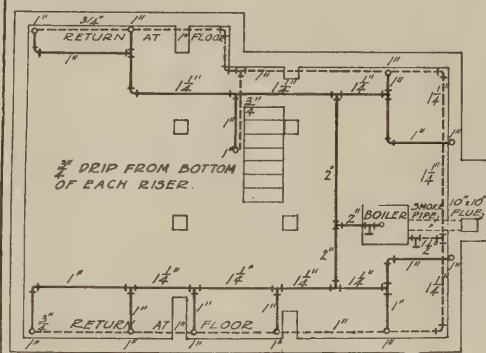

FIG. 4. BASEMENT PLAN
*Piping Layout.*—Referring to Fig. 4, it will be seen that the boiler, in this case, is placed at one end of the basement so as to utilize the flue which the architect has provided. This should be equivalent to a 10"x10" flue and should have an air space around the outer sides. The supply piping should be carried approximately as shown, just below the ceiling, with run-outs to the various risers to give the necessary